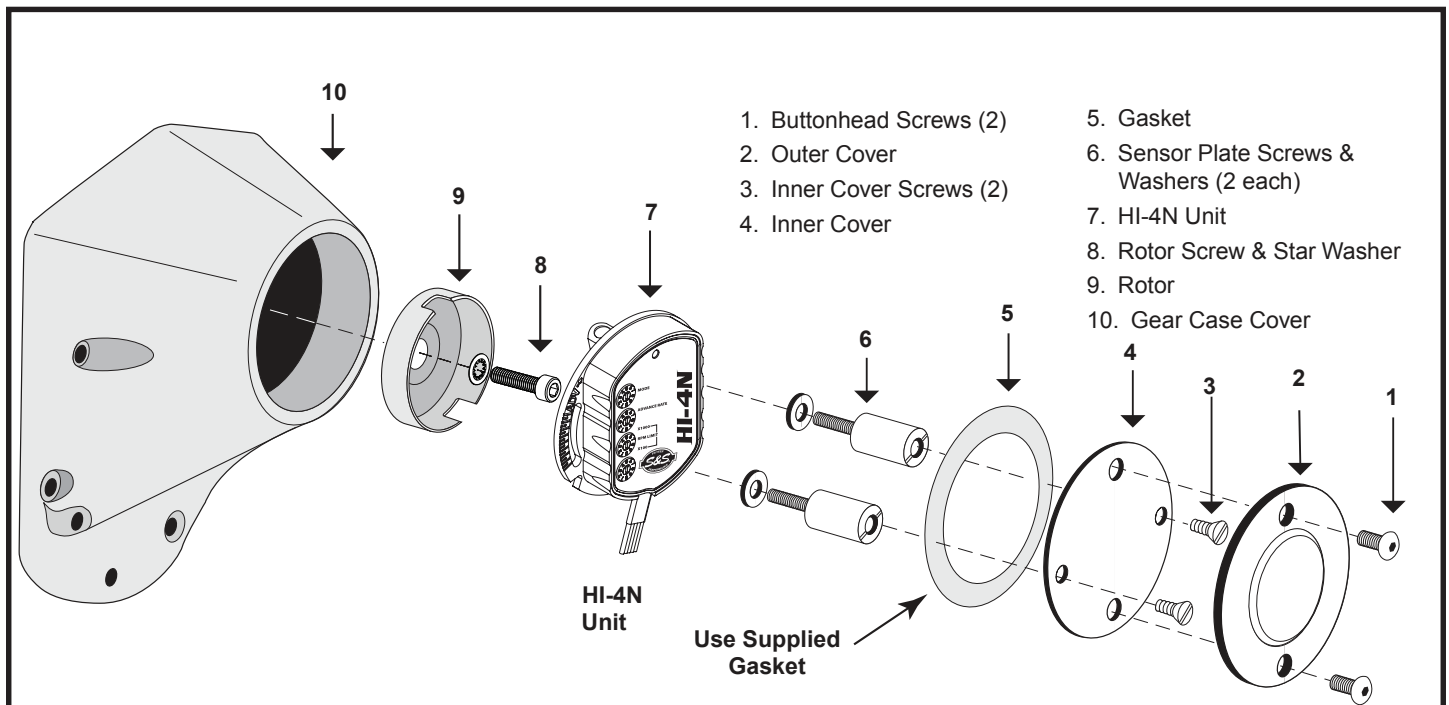

Figure 4
- The HI-4N requires OE timing rotor Part # 32402-83, or S&S Part # 55-1247. For models prior to 1980, use the supplied 10-32 x 3/4" screw and washer to mount the rotor. Refer to **Figure 4** for parts installation